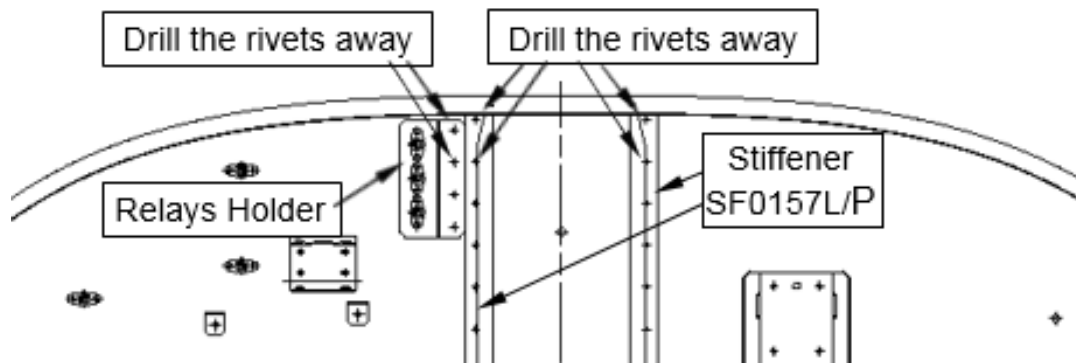

Figure 8 - Drilling the rivets away (view from the engine side)
11. Drill away carefully two plus two upper rivet heads fixing the stiffeners and two upper rivet heads of the relays holder. Remove the rivets - see Figure 8.